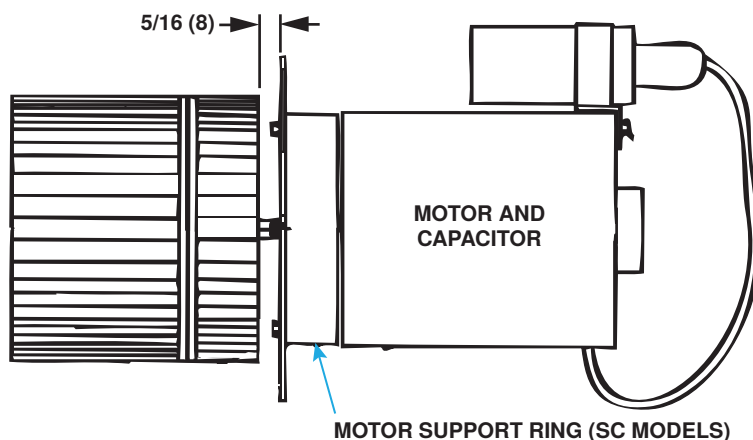

Figure 13. Venter Motor and Wheel Assembly
6. Save all hardware for reuse including support ring on SC models (see Figure 13).
- a. Secure venter wheel to motor shaft on replacement motor using existing hardware. Ensure that there is 5/16-inch gap between wheel and motor mounting plate as shown in Figure 13. Secure venter motor and wheel assembly to furnace using existing hardware.